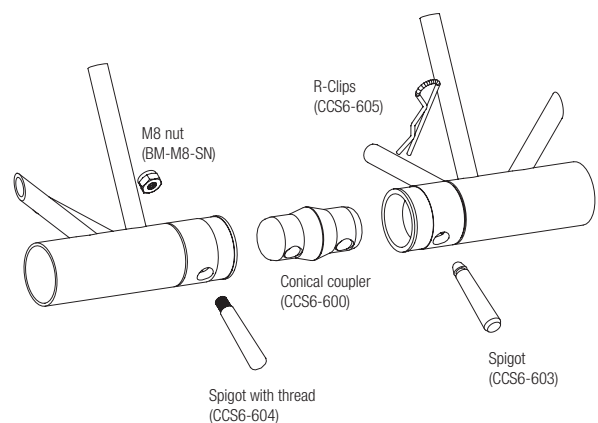

Figure 11. Coupling System
2. Put the conical couplers (CCS6-600) in the conical tube-ends of the truss. Notice the wide side of the truss-pin-hole points outward or upward, see figure 11.